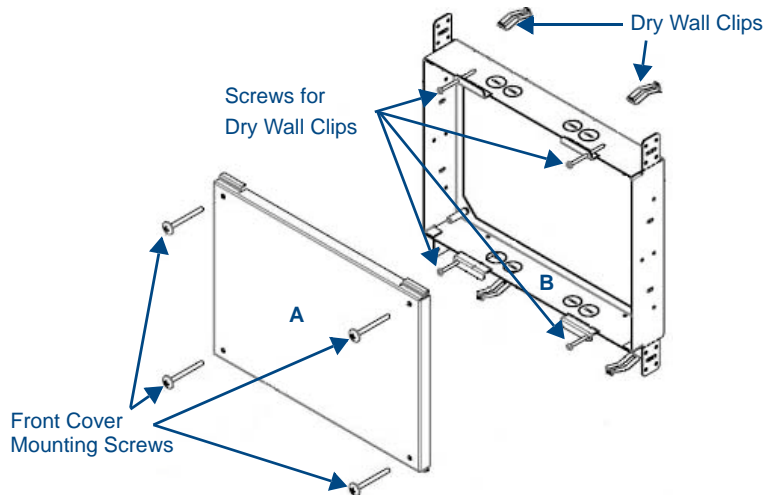

FIG. 17 CB-MVP-WDS9 Rough-In Box - with front cover
The optional metal rough-in box (**FG038-13**) is 11.97 inches (30.40cm) wide at its widest dimension (wider than the bezel of the Wall Docking Station), and is only intended for pre-construction installations (FIG. 17). The Metal Rough-In Box is used in conjunction with the Wall Docking Station's plastic back box.
1. Remove the rough-in box cover (A in FIG. 17) before installation of the Rough-In Box (B).